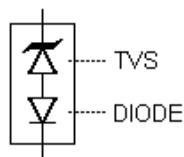
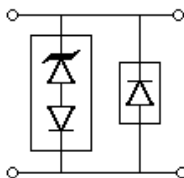
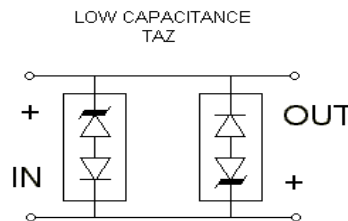

FIGURE 4
FIGURE 5
FIGURE 6
The unidirectional configuration is shown in Figure 4. As a further option for unidirectional applications, an additional low capacitance rectifier diode may be used in parallel in the same polarity direction as the TVS as shown in Figure 5. In applications where random high voltage transients occur, this will prevent reverse transients from damaging the internal low capacitance rectifier diode and also provide a low voltage conducting direction. The added rectifier diode should be of similar low capacitance and also have a higher reverse voltage rating than the TVS clamping voltage V_C . The Microsemi recommended rectifier part number for the application in Figure 5 is the "SMBJLCR80" or "SMBGLCR80" depending on the terminal configuration desired. If using two (2) low capacitance TVS devices in anti-parallel for bidirectional applications, this added protective feature for both directions (including the reverse of each rectifier diode) is inherently provided in Figure 6. The unidirectional and bidirectional configurations in Figure 5 and 6 will both result in twice the capacitance of Figure 4.